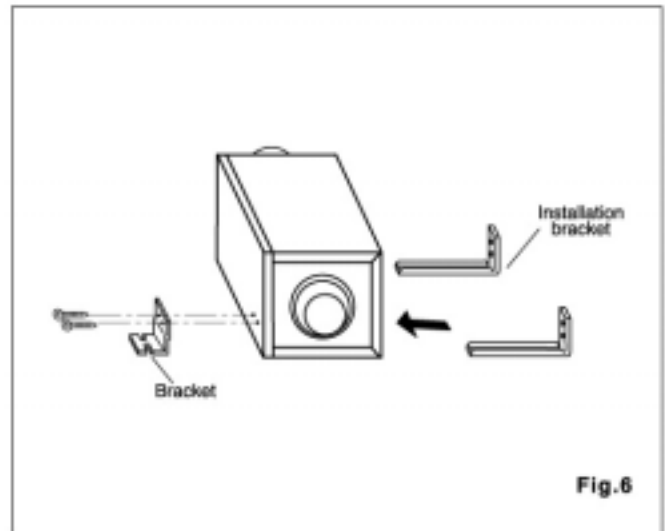

Fig.6
1. Attach installation bracket and bracket to the unit body. (Fig.6)